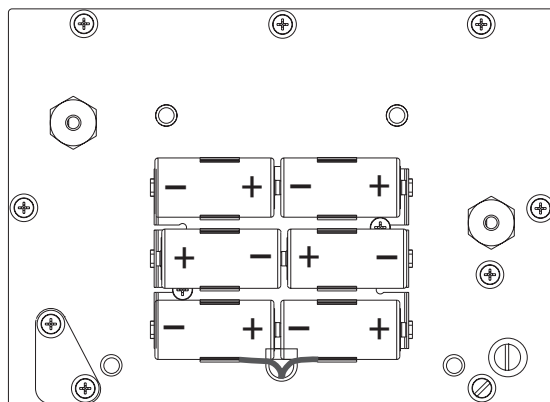

Figure 2-5. Battery Installation
2. Install six alkaline C-cell batteries as shown in Figure 2-5.